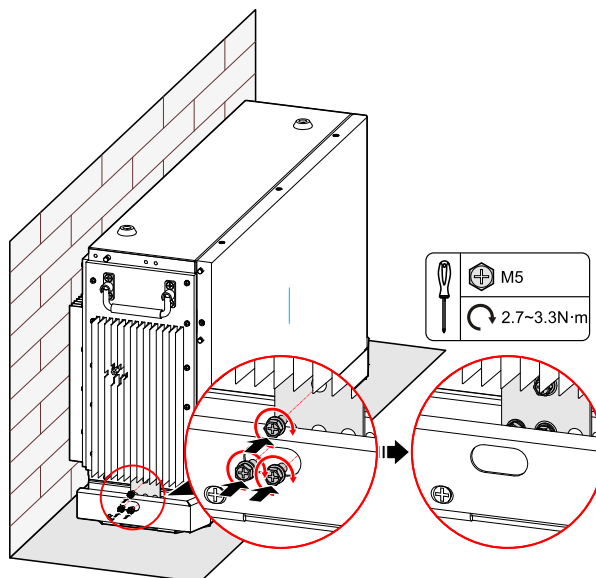

Figure 3-18 Fix the bottom battery pack with base
1. Fix the bottom battery pack with base by wall bracket b, as shown in Figure 3-18.